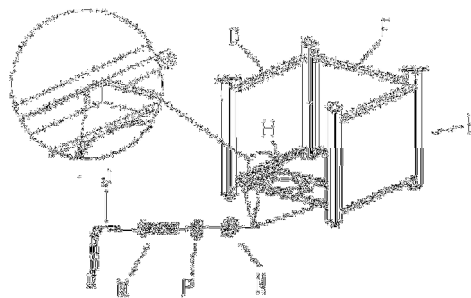

Figure 2
2. Attach the gas cylinder holder (H) to the left side (D) and right side (E) with 4 bolts  $\frac{1}{4}$  in x 15 mm (M), 4 flat washers (N) and 4 spring washers (P) by using the Allen wrench (J), (see Figure 2).